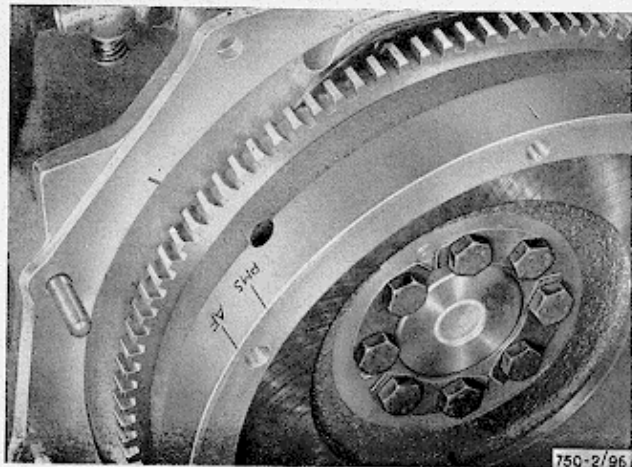

Fig. 96 - Timing marks cut on the flywheel and rear plate
- 1) Bring the No. 1 piston to T.D.C. as indicated when the mark cut on the flywheel is in line with the reference mark on the plate (fig. 96).